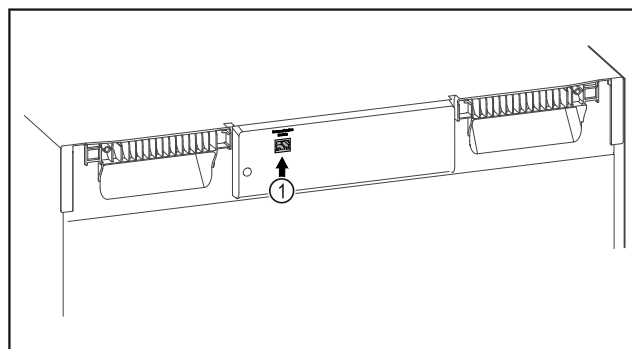

Fig. 138
- ❑ SmartModule Fig. 138 (1) is in use.